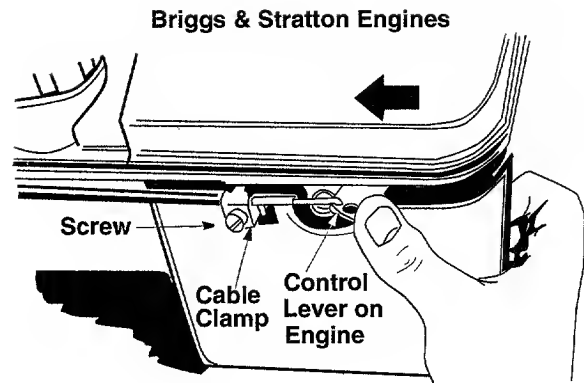

Figure 14
1. Remove the screw shown in Figure 14. Remove the cable clamp from the cable.